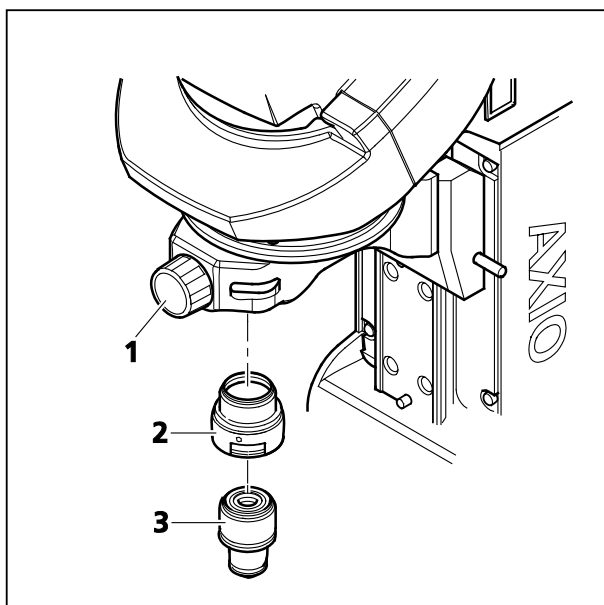

Figure 3-11 Screwing in objectives
- Use the shift knob (Figure 3-11/1) to move the objective mount or objective nosepiece into the WORK position.
- Take the objective(s) (Figure 3-11/3) out of their container, and screw them into the objective mount or objective nosepiece. Use an objective adapter (Figure 3-11/2) if required.